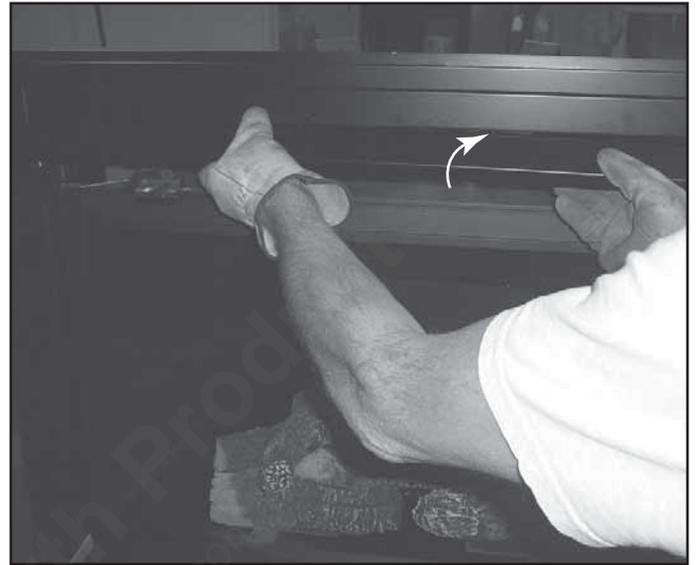

Figure 14.10 Installing Hood
- Tighten the four screws. See Figure 14.10.